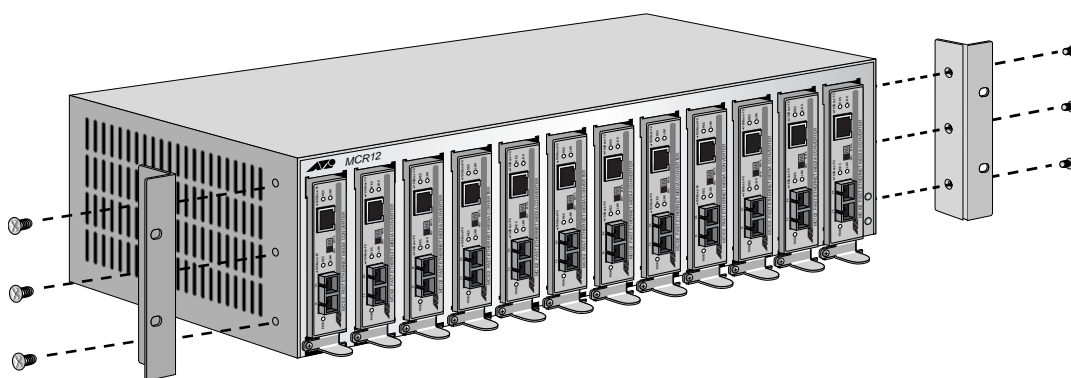

Figure 1. Attaching the Rack-Mount Brackets
4. Attach one rack-mount bracket to each side of the chassis with three screws (provided) on each side, as shown in Figure 1